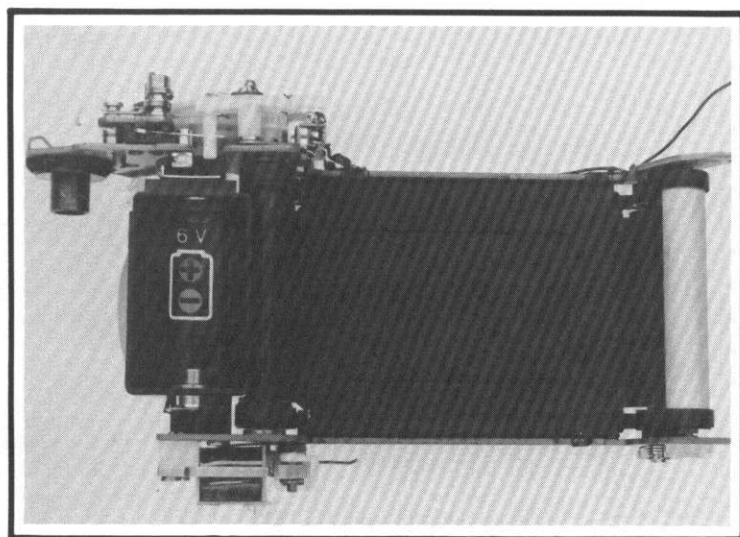

Figure 72 Shutter Unit CG1-0121-000
18. Using the battery housing as a handle, lift out the shutter assembly, Fig. 72.